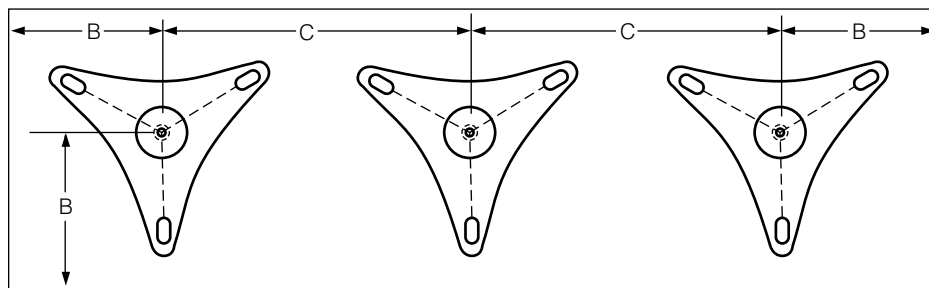

Figure 4.
Figure 4 illustrates an in-line mounting arrangement; the applicable values of "B" and "C" may be found in Table 5. Line and Earth terminal details are shown on Page 9, options 11 and 12. Figure 5 shows an outline drawing of the standard U2 UltraSIL Housed VariSTAR Class 2 Arrester. The values for dimensions "A" and "D" for all ratings are listed in Table 5.
1. Refer to Figure 4 for illustrations of dimensions B and C and Figure 5 for dimensions A and D.